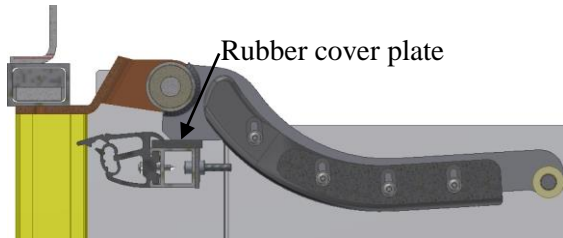
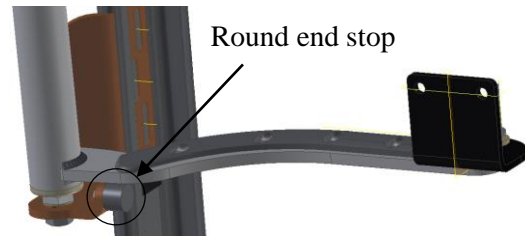

Figure 1.17: End stop as a cover plate, view from above
Figure 1.18: End stop as a round
3.	<p>Check if in a fully open position the door shaft bottom lever touches the rubber cover plate on the door leaf as seen in Figure 1.17. If the door system doesn't have the commonly applied cover plate, it is possible the bottom door shaft lever has a round end stop (Figure 1.18). In this case the door leaf should touch the round end stop on the bottom door shaft lever when the door is in a fully open position.</p> <p>In some rare cases there is an extra end stop on the door shaft top lever (Figure 1.19). Check if the door leaf touches the end stop when in a fully open position.</p> <p>Note: Each side may have a different kind of end stop.</p>